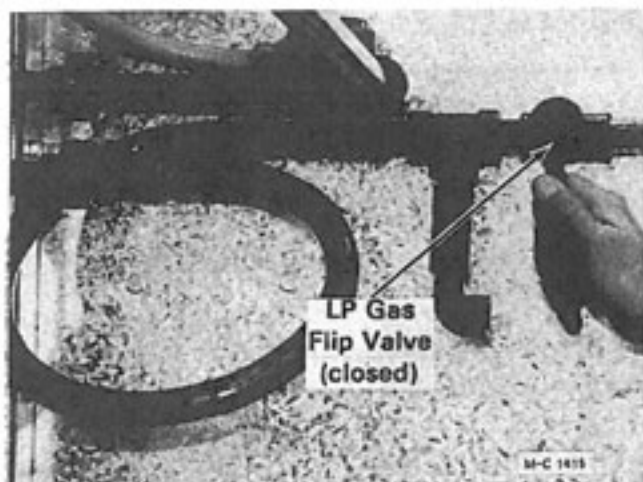

Figure 5 - LP Gas
2. **LP Gas** - Close the liquid line flip valve for each burner (handle down), see Figure 5.